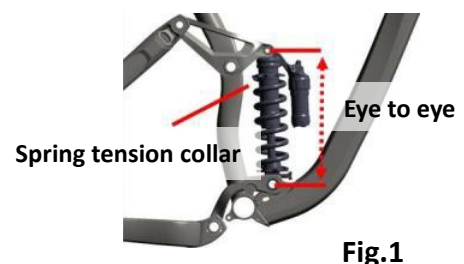

Fig.1
1. Turn the spring tension collar counter clockwise until there is minimal tension on the spring (Fig.1).
3. Position your bicycle next to a wall so that you can sit on the bike with both feet on the pedals while steadying yourself with one arm. Gently sit on the saddle without bouncing. Have a partner measure the eye-to-eye distance while you are seated on the bike (Fig.1).